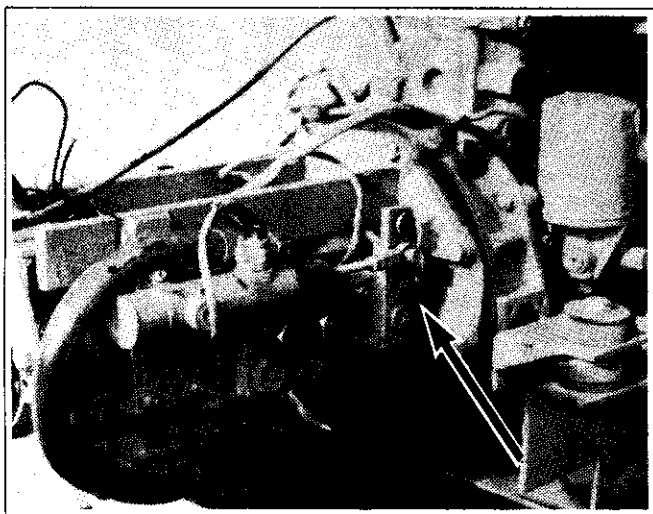

Figure 7-5
1. Remove the four (4) 10 mm cap screws securing the pump mounting frame to the flywheel housing.
2. Remove the two 1/2 inch cap screws securing the pump assembly to the flywheel housing. (See figure 7-5)